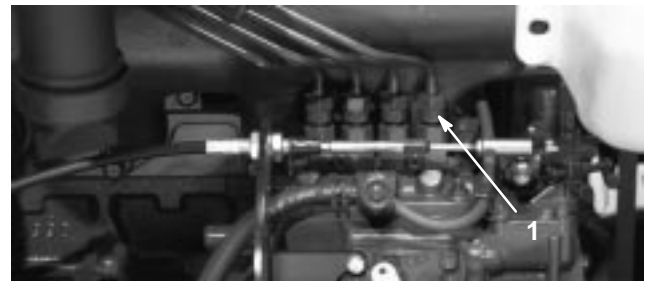

Figure 35
1. Loosen the pipe connection to the No. 1 injector nozzle and holder assembly at the injection pump (Fig. 35).